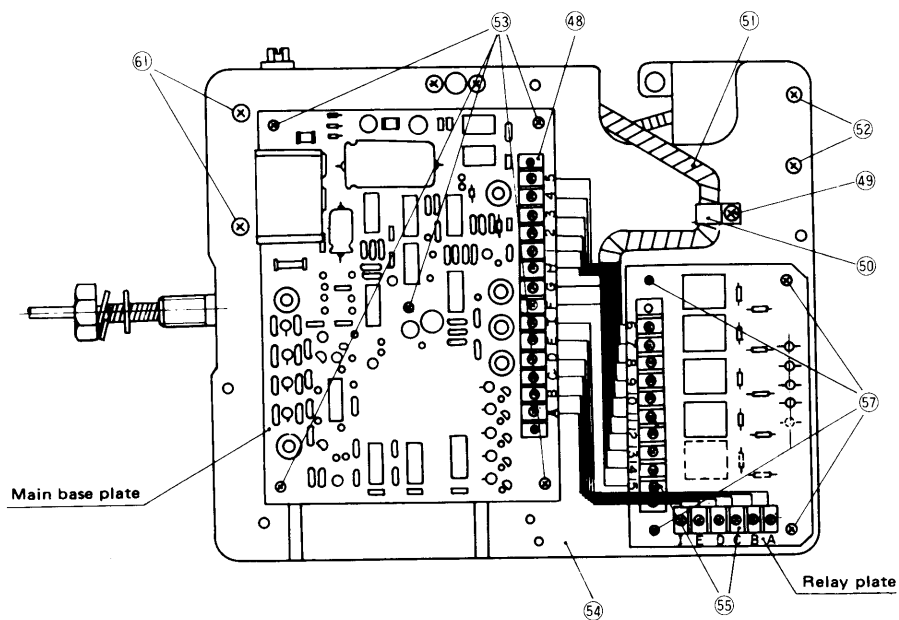

Fig. 4 Internal device assembly
- (2) Remove the internal device assembly. Loosen four hexagonal nuts (11) and screws (46) and remove the internal device assembly from the main body (1) and turn it back. Then it looks as shown in Fig. 4.
(2) Measuring resistance of the volume setter
- Adjust the volume setter as shown in Fig. 4 in accordance with Article [4] 1.
- Remove the lead wires (3 pcs, F. G. H.) which are laid from the volume setter from the terminal (48) (13P) on the terminal strip of the main base plate and measure resistance between G and H of the lead wires.
(3) Replacing points
- From the state of the volume setter as shown in Fig. 4, loosen screw (49), remove power source plug (50), remove the spiral tube (51) from the wires. Then remove two screw bolts (52) and the volume setter can be removed from the base (54).
(1) Replacing standards
(2) Replacing points
- Remove the wires (13 pcs Nos A ~ H, 1 ~ 5) from the terminal strip (48) on the main base plate.
- Remove 5 screws (53) to remove the base (54) from the main base plate, so replace it with new one.
- Adjust it as shown in Fig. 4 in accordance with Article [4] 1.
- Remove the wires (13 pcs No. A ~ E, 6 ~ 13) from the terminal strip (55) on the relay base plate.
- Loosen four screws (57), and the relay base plate can be removed from the base (54). So replace the relay base plate with a new one.
(2) Replacing method
- Take out the internal assembly as stated in Article [4] 1 and turn it inside out, which is shown in Fig. 4.
- Loosen two screw bolts (61) to remove the feeler tube – element and replace it with new one.